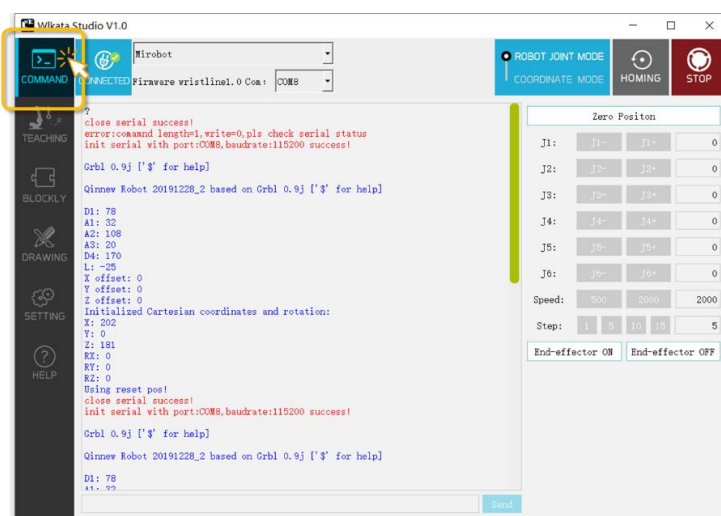

Figure 3.17 COMMAND tab in the WLKATA Studio software
- (1) Click the COMMAND tab in the software interface, as shown in Figure 3.17.
- (1) Click the COMMAND tab, as shown in Figure 3.17.